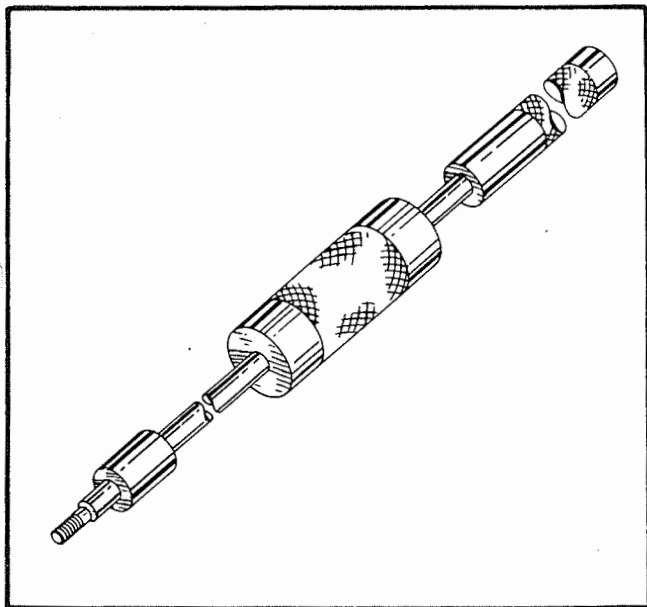

Figure 7-82. Fuel Pump Drive Shaft and Support Puller
- b. Remove the flat countersunk head screw from the fuel pump drive shaft support. Pull the support and drive shaft as a unit with puller 806887 (figure 7-82).